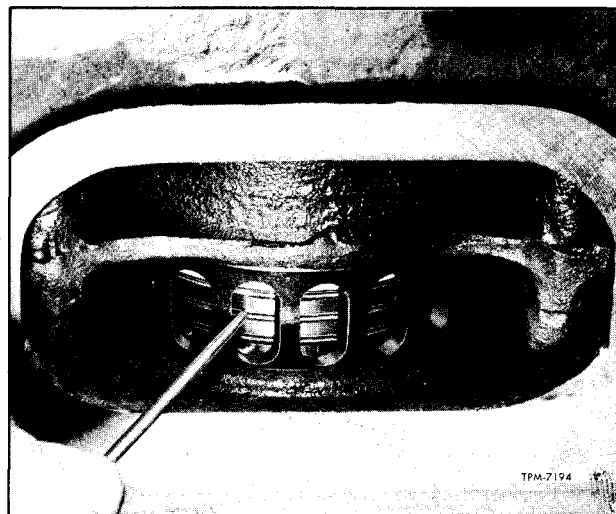

Figure 15—Inspection for Broken or Stuck Piston Rings (Typical)
a. Piston rings may be stuck or broken. To determine the condition of the rings, remove the air box cover and inspect them by pressing on the compression rings with a blunt tool (fig. 15). A broken or stuck compression ring will not have a "spring like" action.